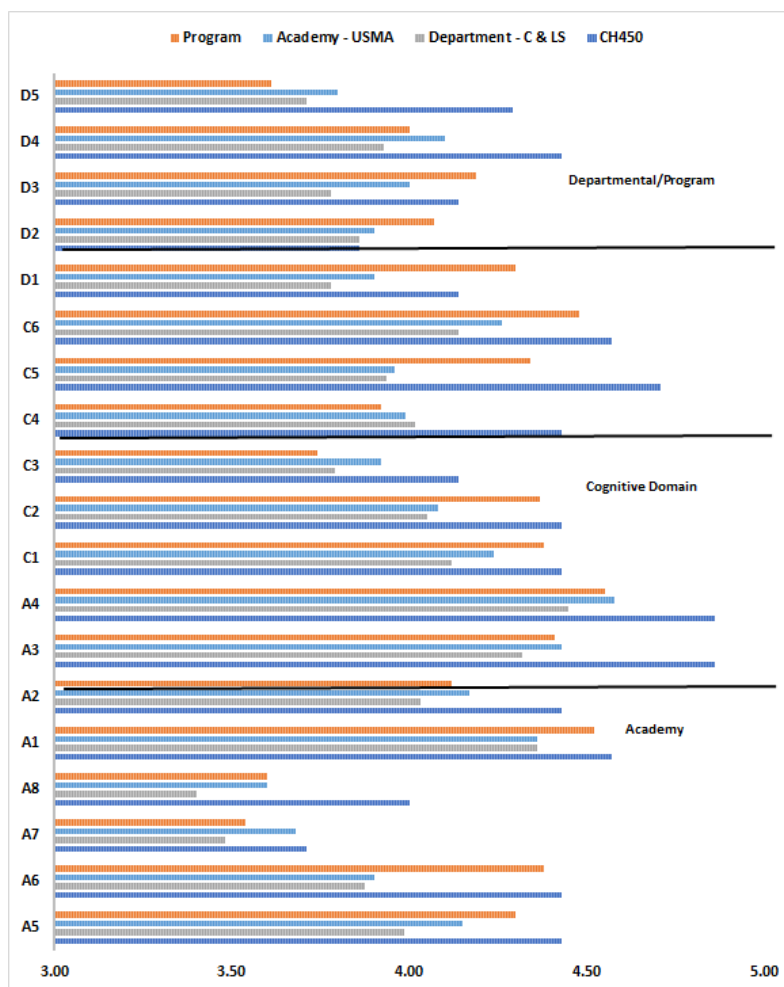
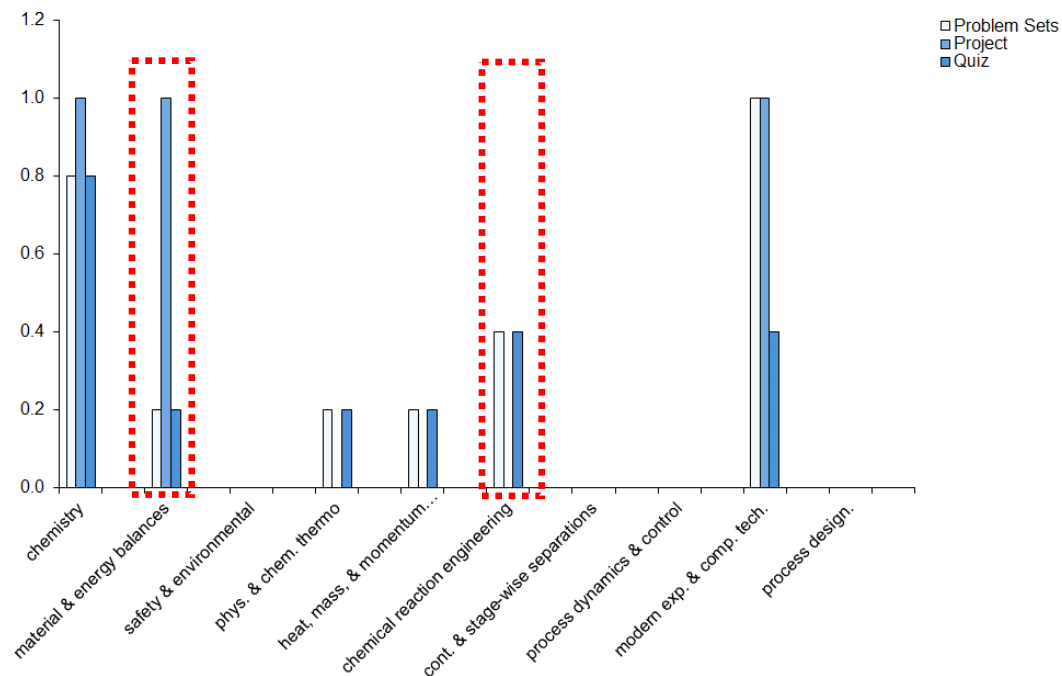

Figure 3. Roll-up of the CourseEval survey assessment results.
Figure 4. Student Curriculum Outcomes Coverage by Graded Event.
8.a. Coverage. Contribution to student objectives was assessed using the same method as described in Section II.3. Figure 4 shows coverage of student curriculum outcomes. The spreadsheet containing the data for this analysis is attached to the end of this report, in the section labeled "Section II - Attachment 2 – Assessment Worksheet." The items marked with **red dashed boxes** in Figures 3 designate student directives from Section I.8.